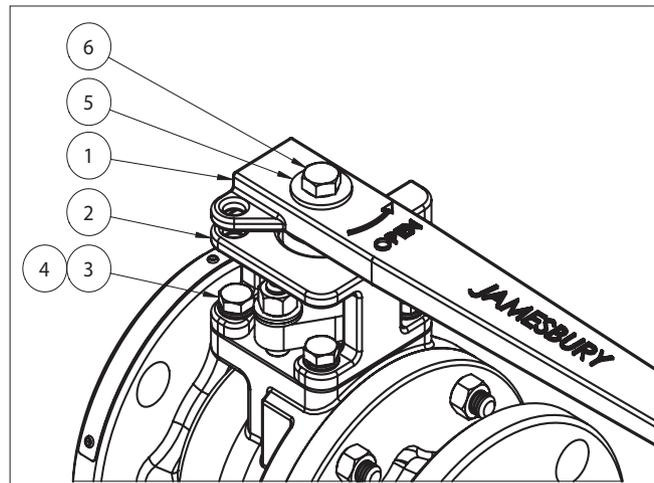

Figure 11. Handle Assembly
- Lower the handle bracket (2) straight down in line with the valve stem until it is flat on the valve bonnet, and all four mounting holes align with tapped holes on the valve (see **Figure 11**).